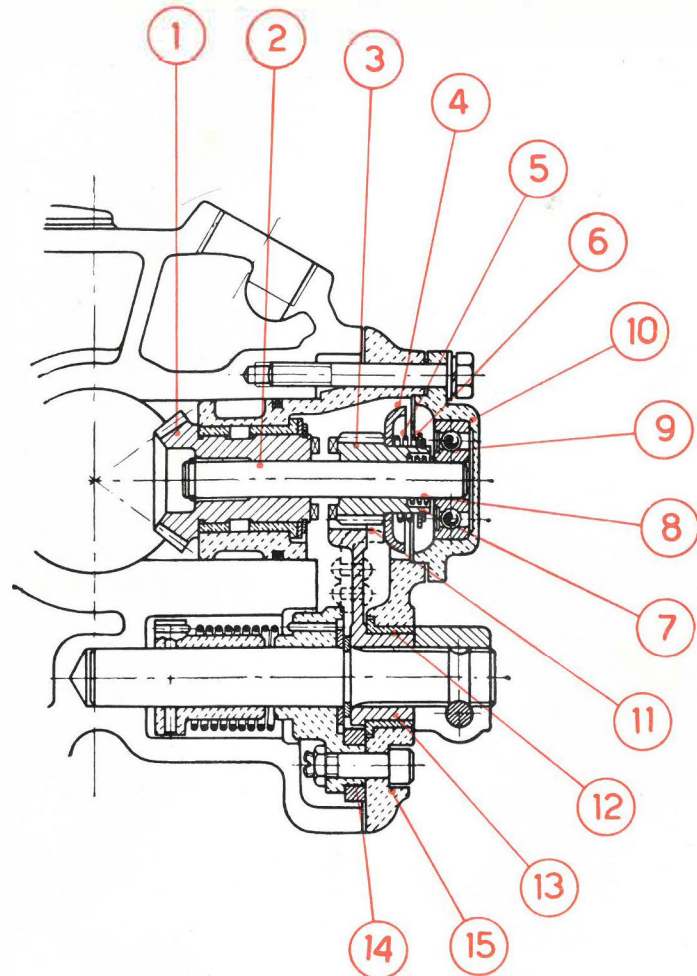

Fig. 72 - Showing how the starting group operates.
After the alterations, notified in Modification 1), the starting group has been further improved, as illustrated in fig. 72. The last solution will remarkably improve the operation of the starting device, preventing the edge contact of the gears at the beginning of mesh through a new element, which allows engagement of the first tooth of quadrant (12) with the starter pinion (3) when the latter is in neutral on the pin (2).
Install the bevel pinion (1), with the shaft (2) forced into it, in the cover (15), where the bronze bushes have already been fitted, (Look at fig. 72) ; next position the pinion with the aid of washers and Seeger rings.
The remaining parts (see fig. 72) are similar to those of the previous starting group ; only the quadrant rotating on bronze bushing carries the plate (11).